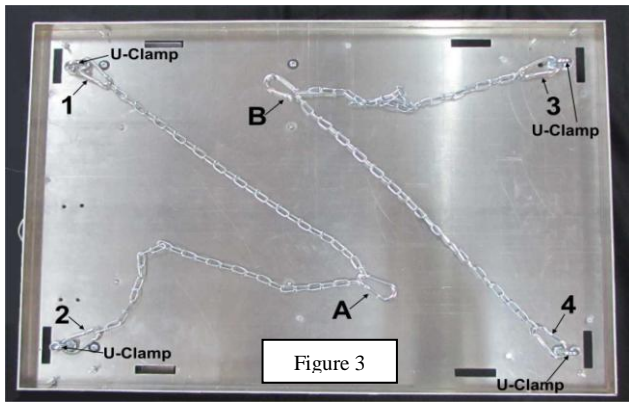

Figure 3
- 2) You will see on the underneath side of the AIRO-50XL there are 4 U-clamps that will be used to hang the AIRO-50XL unit from the ceiling. See figure 3 on page 4.
- 3) The manufacturer has included 2 harnesses (one for the left side and one for the right side. These are interchangeable). Please attach the harness per Figure 3 below (i.e. Hook 1 to u-clamp left top corner. Hook 2 to u-clamp lower left corner. Hook 3 to top right corner u-clamp. Hook 4 to lower right corner u-clamp. Hooks A & B will be used to attach the unit to your ceiling in step #6 on page 4.